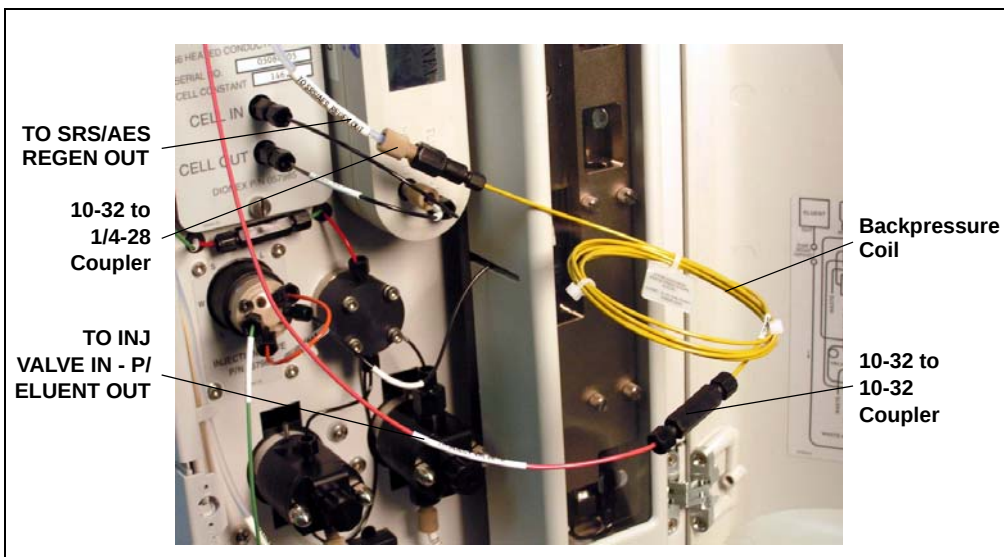

Figure B-66. Backpressure Coil Connections for Conditioning the EluGen Cartridge and EPM with Carbonate/Bicarbonate Eluent
1. Disconnect the **TO INJ VALVE IN - P/ELUENT OUT** line from port **P (2)** on the injection valve.
5. Connect the **TO SRS/AES REGEN OUT** line to the 10-32 to 1/4-28 coupler (see Figure B-66).
NOTE The backpressure coil connection in Figure B-66 is temporary; it is required only during the EPM and EluGen cartridge conditioning procedure described in the next section.